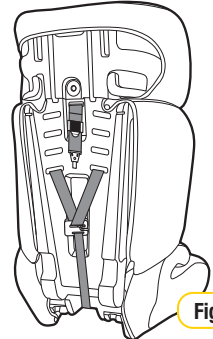

Figure 1
**Step 1:** From the rear of the restraint, remove each shoulder harness through the gates in the "G" connecting plate (see Figures 1, 2, 3 & 4).
**Step 1:** Place the restraint with the back against the back of the vehicle seat, directly in line with the anchorage point (refer Figure 1).